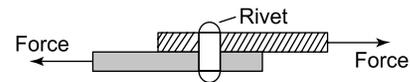

Figure 2.3
- (i) a rivet holding two plates together is in shear if a tensile force is applied between the plates – as shown in Figure 2.3